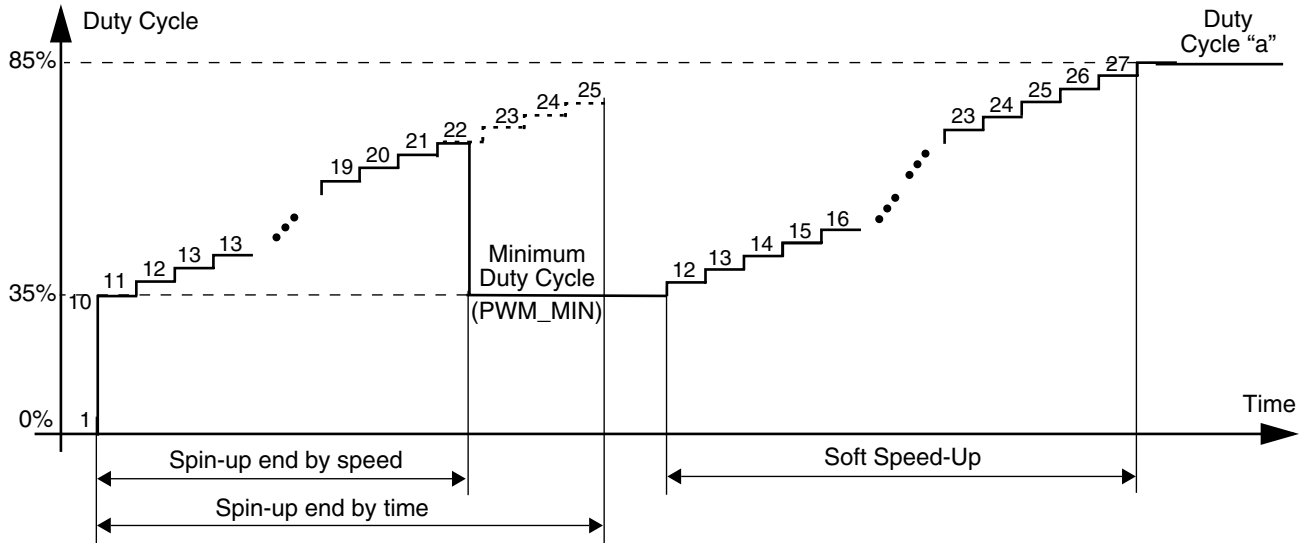

Figure 33. Soft Spin-Up and Soft Speed-Up Example
- Soft speed-change: The FANPWM duty cycle is changed in steps of 3.125% duty-cycle until the new duty-cycle is reached. Changes between 0% and the minimum duty cycle (as defined in the FANPWMn Minimum registers) is done in one immediate step (when the fan is stopping or spinning-up). The step duration is determined by the STEP_LEN field in the Extended Control Configuration register. Figures 33 and 34 show a soft speed-change example.